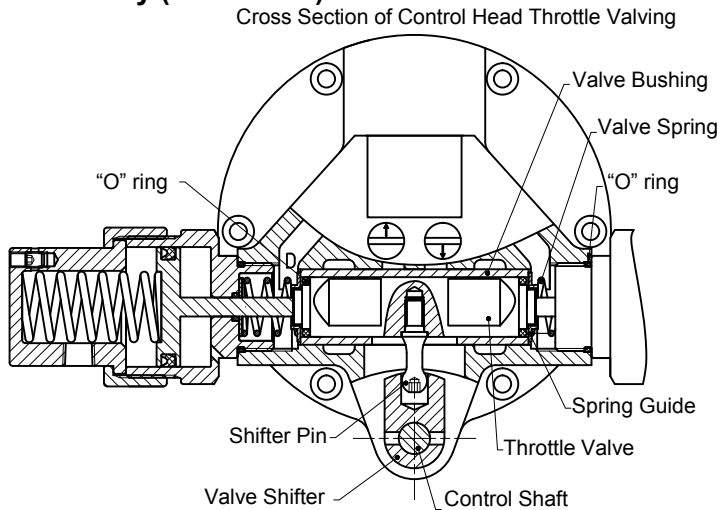

Figure 19 -Section View Showing Assembly of Throttle Valve, Springs and Valve Shifter in Control Head
4. The throttle valve is retained in the control head by the valve shifter pin. The pin is assembled with Loctite on the threads and should not be removed for routine servicing. Use a hex key to remove pin from bottom of throttle valve if valve is to be removed (See Figure 19). Then remove the valve from bushing in housing. The throttle valve bushing is pressed into place and honed to provide a .0001 to .0003 inch clearance with valve. The housing and bushing assembly should be replaced along with the valve if bushing is scored, worn, or otherwise damaged.
1. Lightly oil throttle valve and bushing with SAE 20 oil. Assemble valve with threaded hole facing slot at bottom of bushing in housing (Figure 19) if shifter pin was removed from valve. Shifter pin should be assembled with loctite. Take extreme care NOT to get any loctite on valve outside diameter and scrap the complete head assembly.